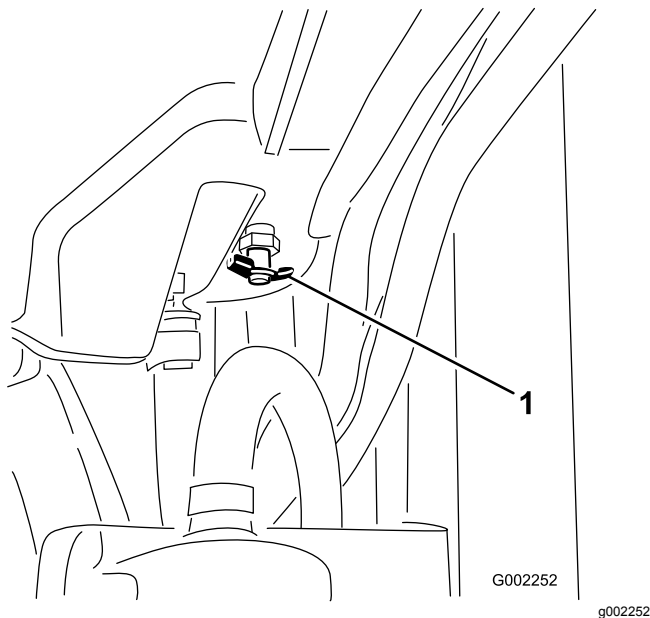

Figure 91
4. Open the drain valve and drain the coolant into the pan (Figure 91).
5. Close the drain valve (Figure 91).